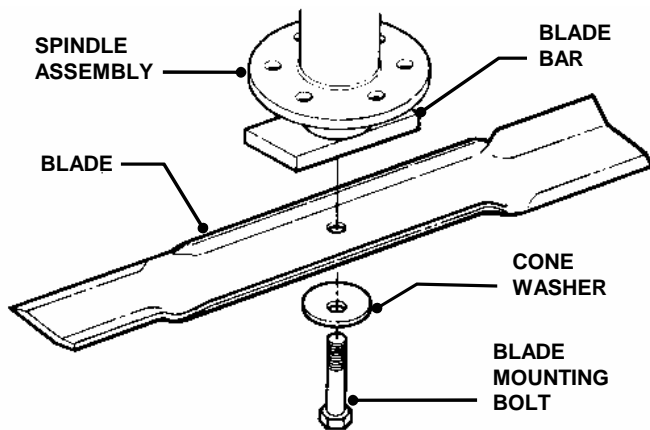

FIGURE 4.16
5. Remove blade mounting bolts and cone washers. See Figure 4.16.